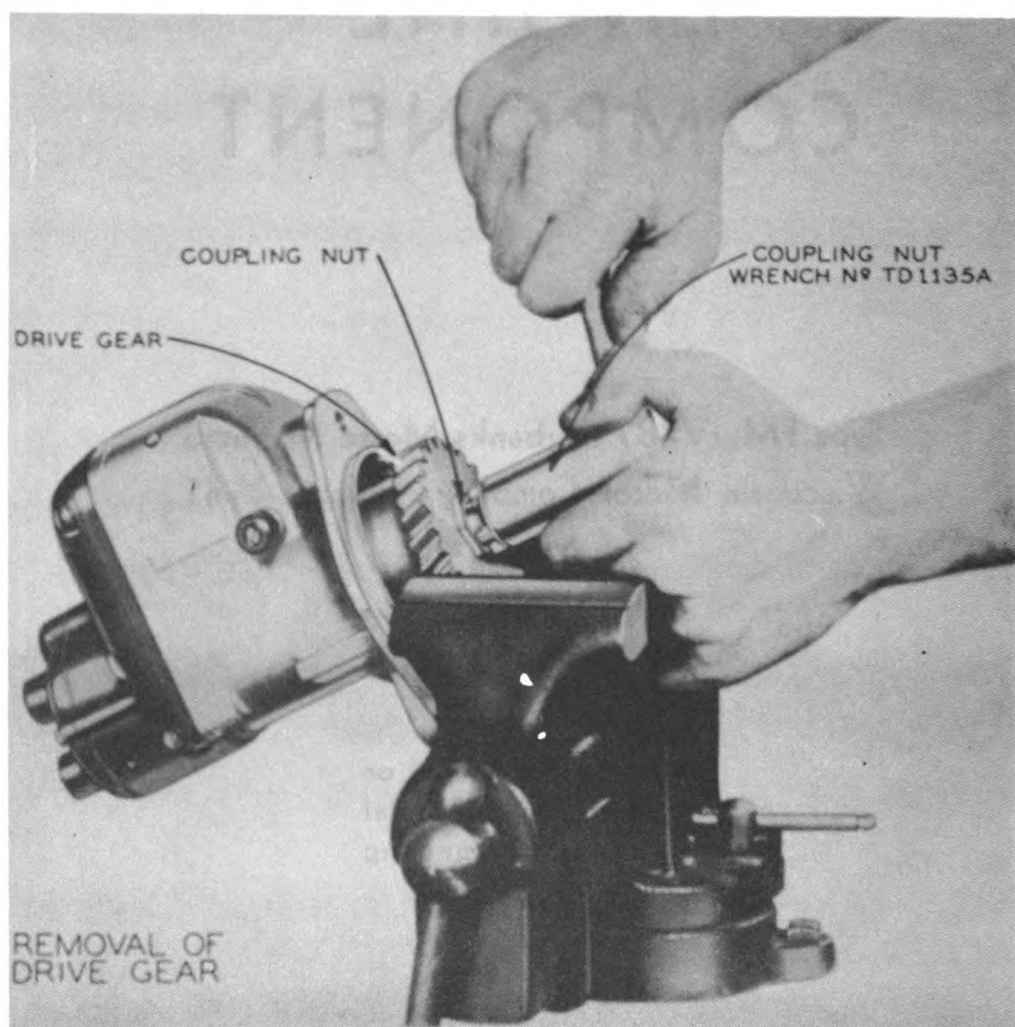

Fig. 133
**REMOVAL OF THE DRIVE GEAR**—The lockwire inserted in the end of the rotor shaft must first be driven out, after which the drive gear should be caught in a vise as shown in (Fig. 133). (Note that the vise jaws are copper-covered to prevent injury to the gear, although wooden jaws are equally suitable.) The coupling wrench TD1135A should then be fitted to the slots of the coupling nut and turned counter-clockwise, to remove. A standard  $\frac{7}{8}$ " hex socket wrench can be used in place of the special TD1135A wrench for this operation. After the nut has been taken off the rotor shaft, the drive gear can be easily pulled away from the impulse coupling shell.